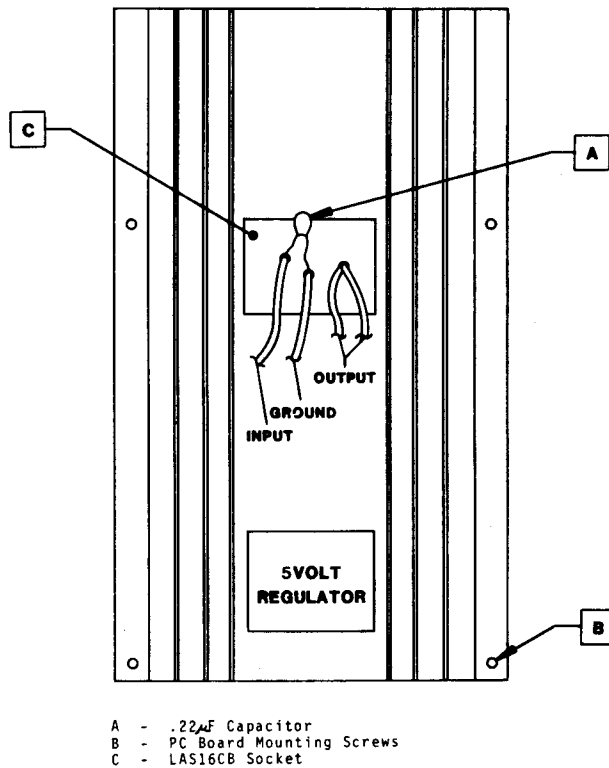

Figure 4-2 Power Supply Heat Sink with PCB Removed
4. Inspect the capacitors which are mounted on the socket used for the 13.8V regulator (either LAS15CB or LAS16CB). If two 0.22uf capacitors are in place, remove the one on the output and proceed to Step 6. Remove all other capacitors which you find. Refer to Figure 4-2.
5. Install the 0.22 μ f capacitor on the input side of the regulator, observing polarity requirements. (Refer to Figure 4-2.)